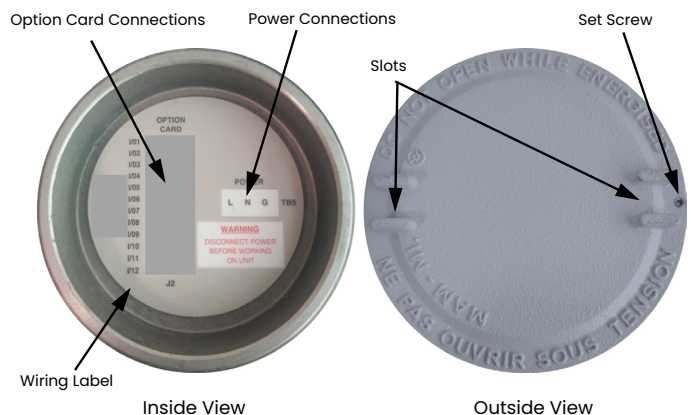
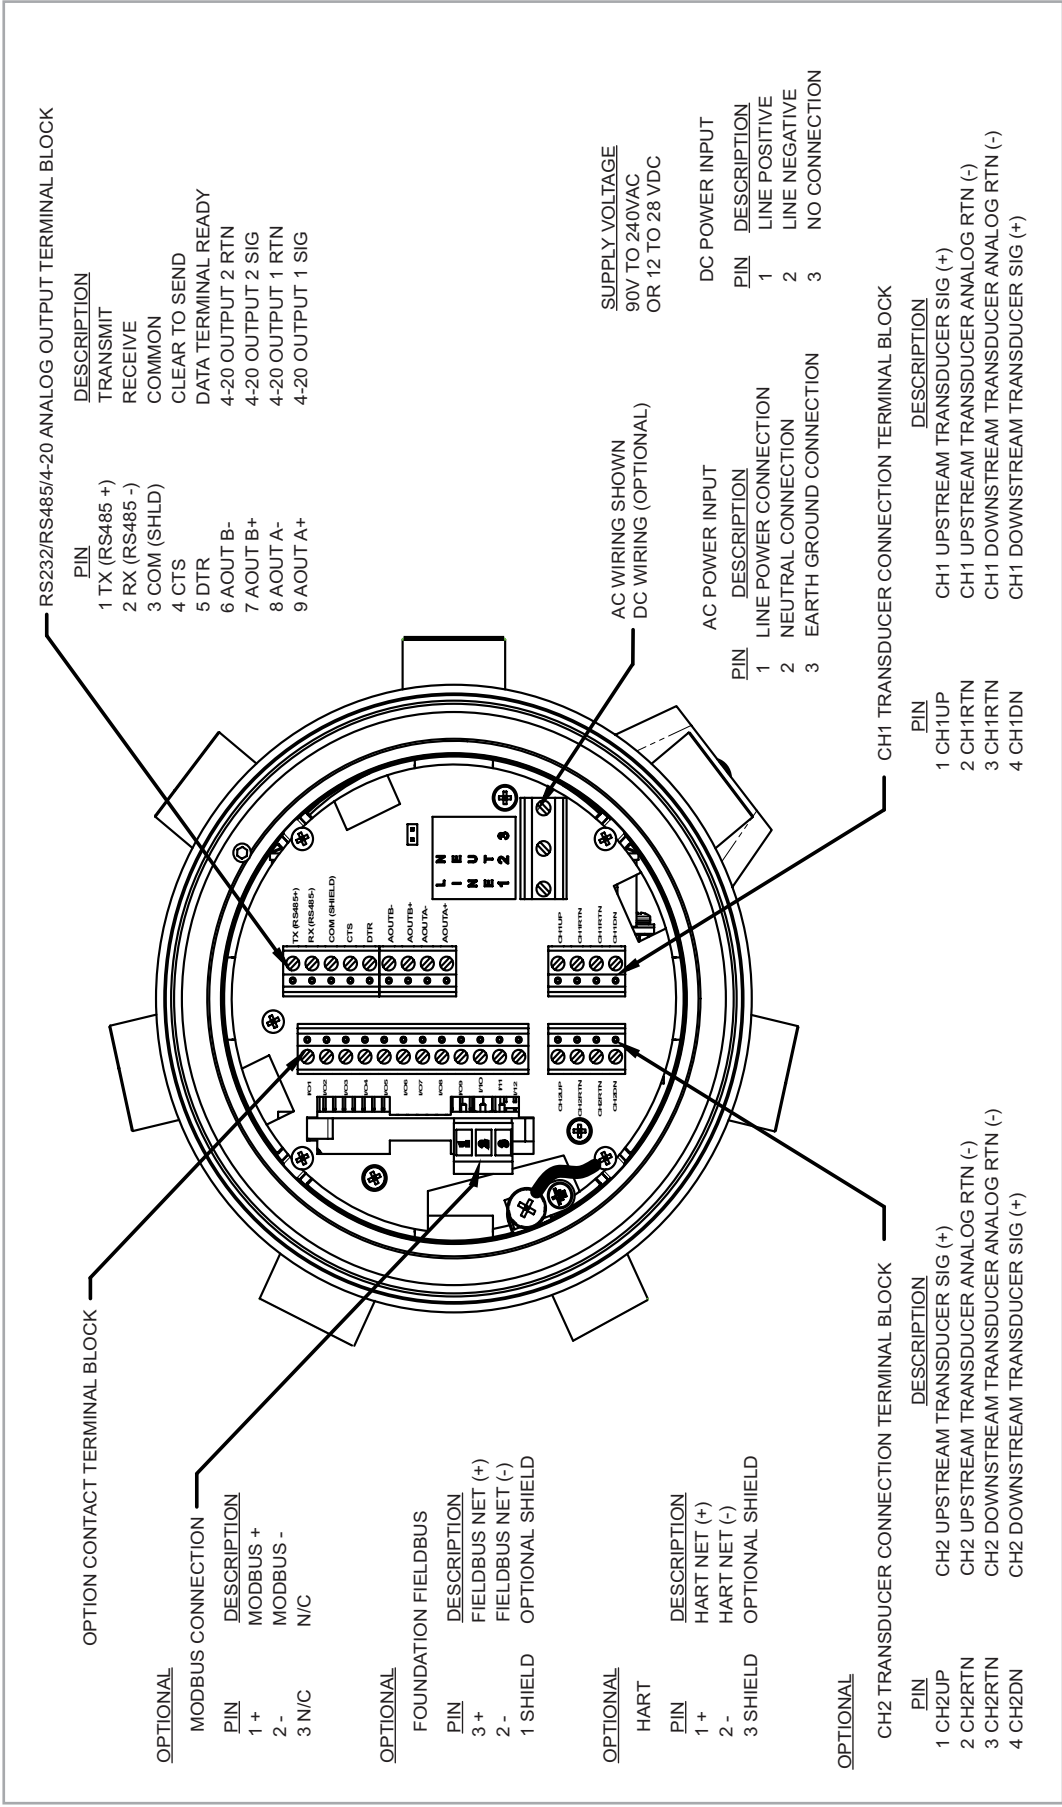

Figure 9: Rear cover with connection labels
Figure 13: Transmitter electronics - wiring diagram (ref. dwg. #702-1846)
To prepare the *PanaFlow ZIG/Z2G Process Gas Flowmeter* for wiring, refer to *Figure 9* below, and complete the following steps:
Refer to *Figure 13 on page 14* to locate the correct terminal block, and connect the line power as follows:
3. Refer to Figure 13 on page 14 to locate the correct terminal block, and wire the analog outputs as shown. Secure the cable clamp.
Refer to *Figure 13 on page 14* to locate the correct terminal block, and wire the RS485 serial port as follows:
- Locate the 12-pin terminal block in Figure 13 on page 14 and wire the option card as indicated on the label inside the rear cover (see Figure 9 on page 7). Secure the cable clamp.
Before making any connections, complete the steps in “Making the Electrical Connections” on page 10. Then, wire the analog inputs as shown on the label in the rear cover (see Figure 9 on page 7).
The *PanaFlow Z1G/Z2G Process Gas Flowmeter* RTD inputs option card provides two or four direct RTD inputs (designated as A, B, C and D). Each RTD input requires three wires, and should be connected as shown on the label in the rear cover (see *Figure 9 on page 7*).
To connect the HART interface, refer to *Figure 13 on page 14* and proceed as follows:
To connect the Foundation Fieldbus interface, refer to *Figure 13 on page 14* and proceed as follows: